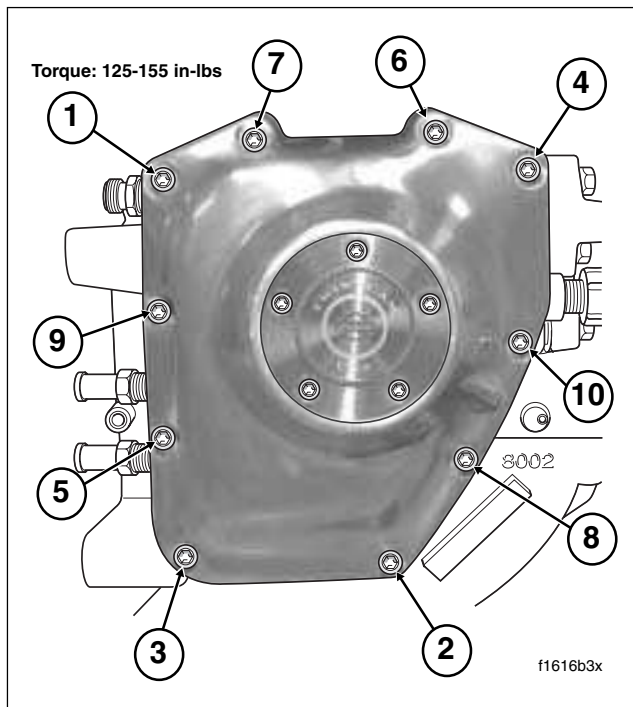

Figure 3-55. Cam Cover Torque Sequence
29. Install the cam cover using ten allen head socket screws (1/4 x 1-1/4 inches). Alternately tighten screws to 125-155 **in-lbs** (14.1-17.5 Nm) following the pattern shown in Figure 3-55.